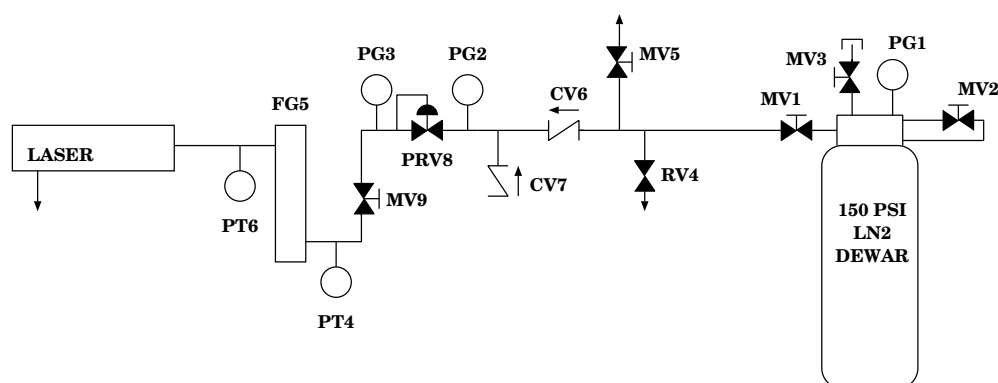

Figure 1: The laser gas system
2. If possible turn off the N2 gas at the dewar ( valve MV1, see Fig. 1 ).